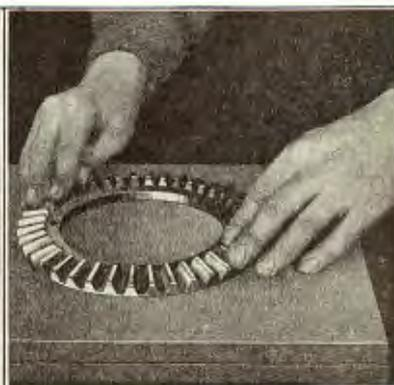

Fig. 344
- 589** Inspect differential drive gear for worn or chipped teeth. Check gear on a surface plate to see if it is sprung (See Fig. 344). If gear is sprung, teeth badly worn or chipped a new gear should be installed. If a new drive gear is installed, it will be necessary to install a new drive shaft pinion as described in Par. 590.